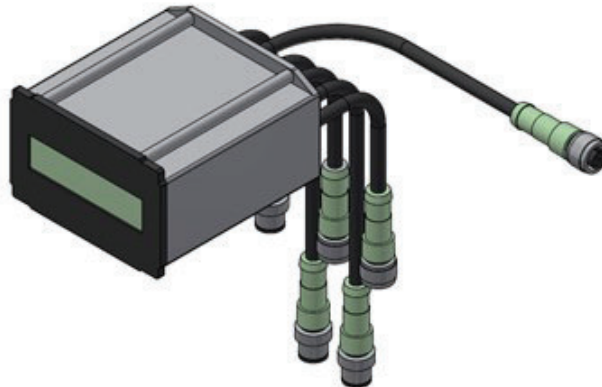

Figure 1 – Trotter Fill Level Display Unit (aka “DMS”)
2. Dismount the display unit (Wipaire PN 1011618) from instrument panel by removing (4) #6-32 screws. Location on instrument panel varies - refer to Figure 1 for an image of the unit.